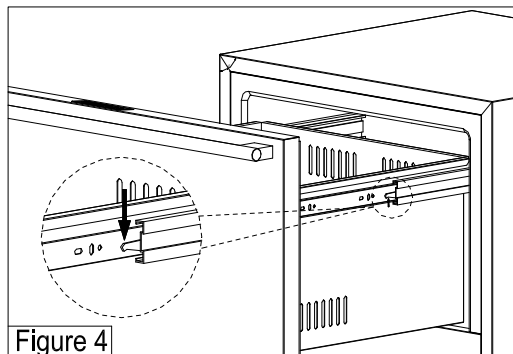

Figure 4
2. Release the drawers from the track by pressing the right lever down and lifting the left lever up at the same time. (see **Figure 4**).